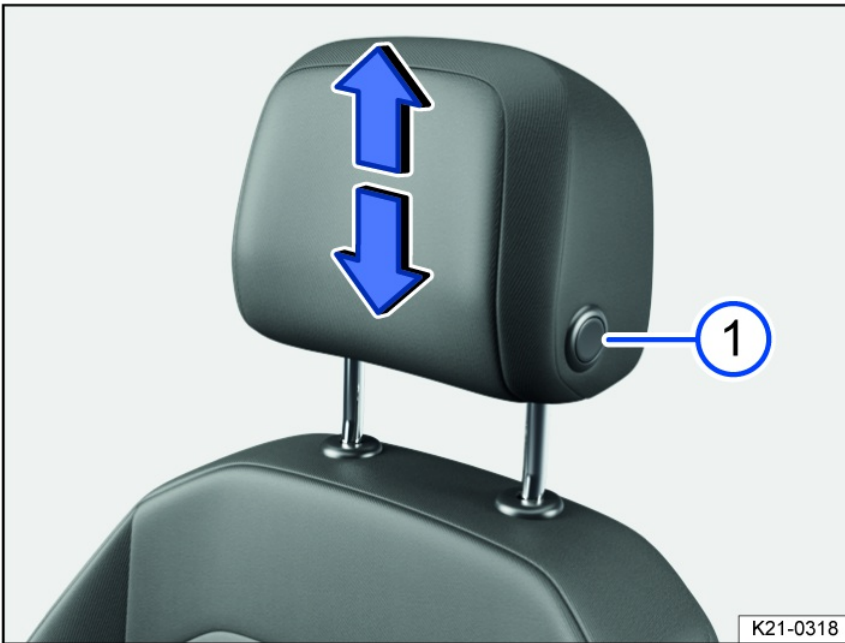
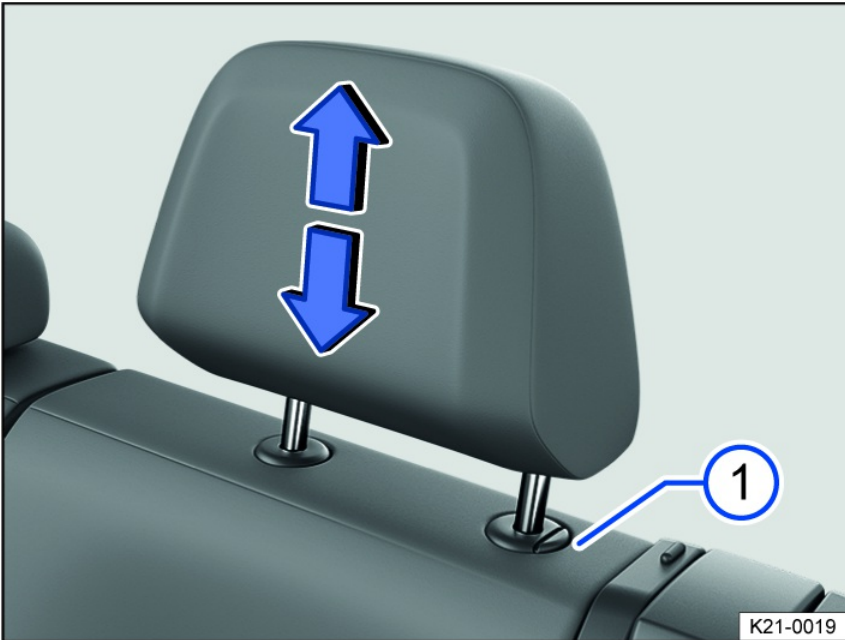

Fig. 72 General example: Adjusting the front head restraint forwards and backwards.
Fig. 73 General example: adjusting the rear head restraint.
1. Slide the head restraint up or down in the direction of the arrow; you may need to press the fig. 72 or fig. 73 button first to release the head restraint.